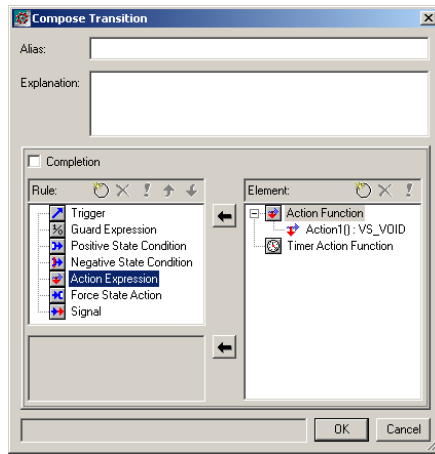

Figure 75: Compose Transition dialog box, action function
- 2 In the Rule section, select Action Expression to display the elements created in the right section. See Figure 75, page 92.